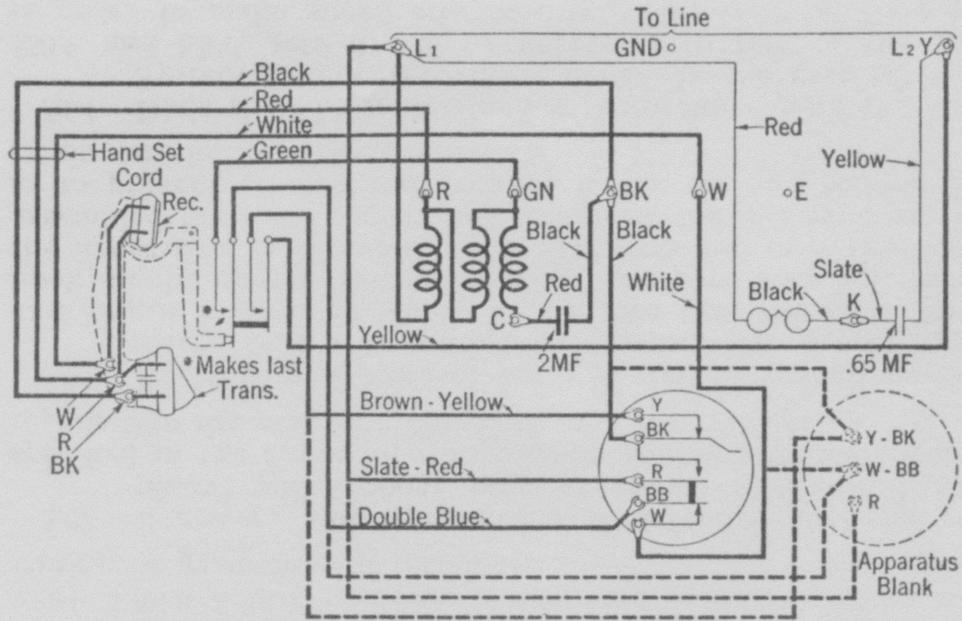

Fig. 10—Circuit of No. 300 Type Set
- (1) Open inner door of set and disconnect the wires BK, Y, BB, W and R from the No. 80A apparatus blank.
- (2) Remove number card holder and take out the two screws that hold the apparatus blank in place and remove the blank.
- (3) Assemble a 58A dial adapter on the back of the inner door, using the three screws, hexagon nuts and larger lock washers furnished with the adapter.
- (4) Assemble the required 147 type number plate to a 56A dial adapter using the cap nuts and washers furnished with the dial adapter.
- (5) Place the dial in the 56A dial adapter and assemble them to the set by means of the 58A dial adapter using the RH screws and smaller lock washers furnished with the 58A dial adapter.
- (6) Attach the five wires to the dial according to color code and dial terminal markings. See Fig. 10 under connections.
4.01 Connections for the No. 300 type telephone set and the Nos. 530A and 630A subscriber sets are shown in Figs. 10, 11, and 12 respectively.